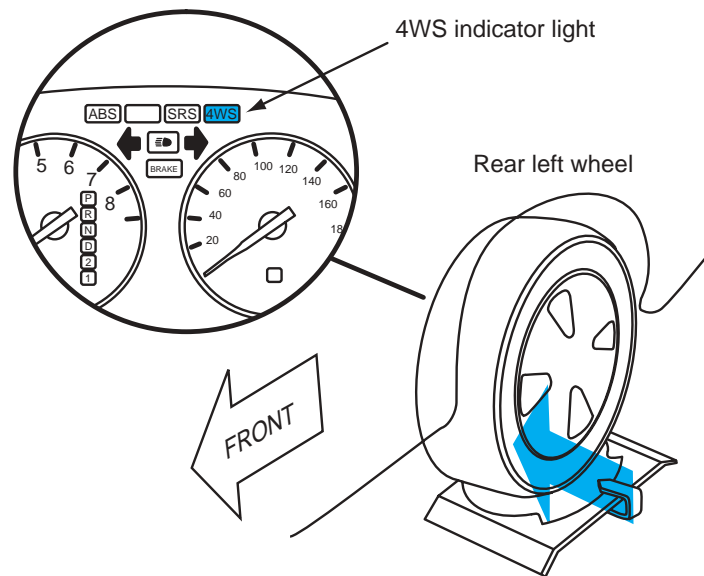

Figure 13-30 Pushing the left rear wheel to the right and observing the 4WS indicator light checks the rear main steering angle sensor.
5. With the ignition switch on, push the left rear wheel fully to the left by hand; then slowly push it to the right. The 4WS indicator light should be illuminated for more than two seconds when the left rear wheel is pushed to the right (Figure 13-30). If the 4WS indicator light is not illuminated, remove the rear main steering angle sensor and check it for damage.